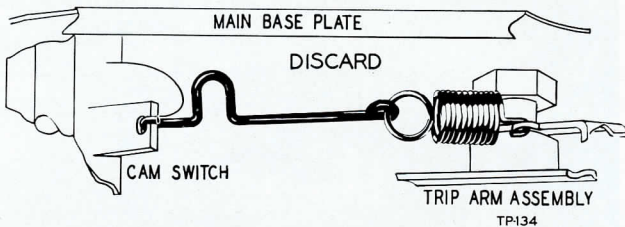

FIGURE 23. LOCATION OF LEAD-IN SPRING AND LINK
1. Remove and discard the lead-in spring and clip from the trip and positioning assembly, as shown in figure 23.